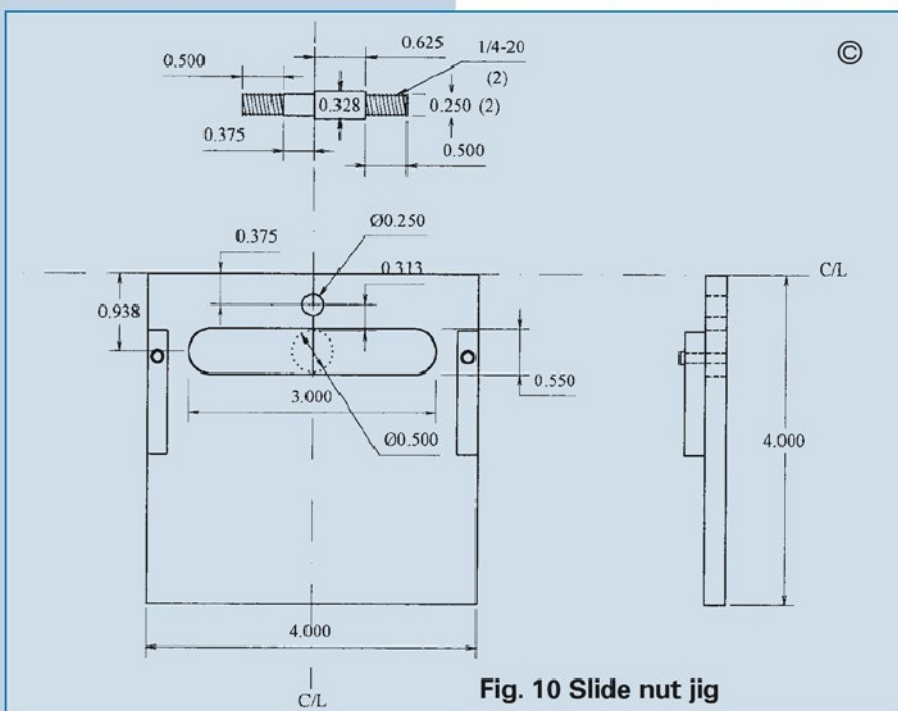

Fig. 10 Slide nut jig
- Fig. 10. Slide nut jig
11. Making the angled support piece used to support the gib, as shown in Fig. 10. Again the same dovetail cutter is used
Slide nut (Fig. 9) and Jig (Fig. 10)
The $\frac{5}{16}$ in. radius at the end of the nut is not in itself critical and can easily be formed with hacksaw and file. It would make a good filing exercise. However, there is another way which yields a near perfect result and here is the chance to use it. It is worth doing as it has a wide variety of future uses and involves designing and making the simple jig shown in Fig. 10.
square- slightly larger than the cutter - here 0.550 inch. The nut stock is going to be held and rotated around the 0.328in. dia. hole, so a shaft is made, as in the top of Fig. 10, to bolt to the plate and to fit the nut hole. Time should be taken to make this fit as good as possible because there is a very short bearing surface ($\frac{5}{16}$ in.). A